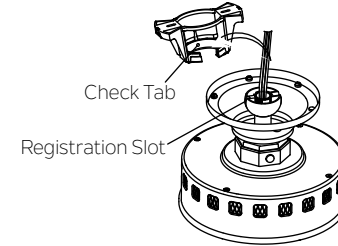

Fig. 9
Step 5. Now lift the motor body into position and place the hanger ball into the hanger bracket. Rotate until the "Check Tab" has dropped into the "Registration Slot " and seats firmly. (Fig. 9)